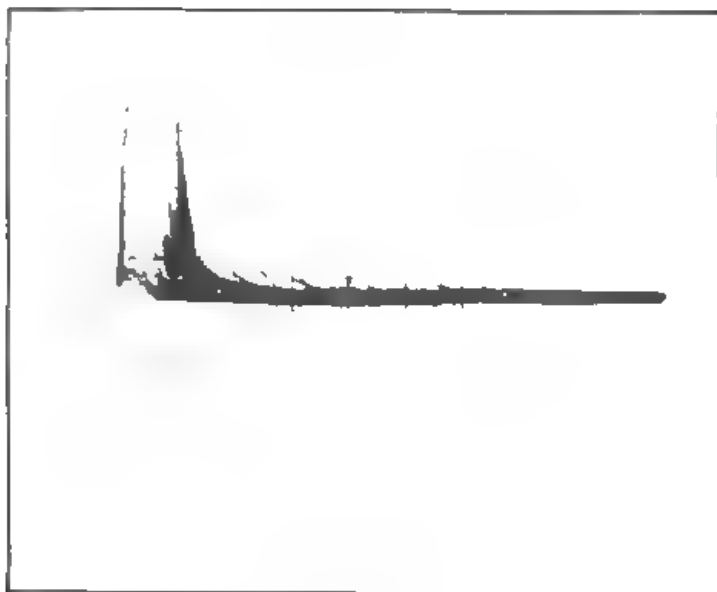
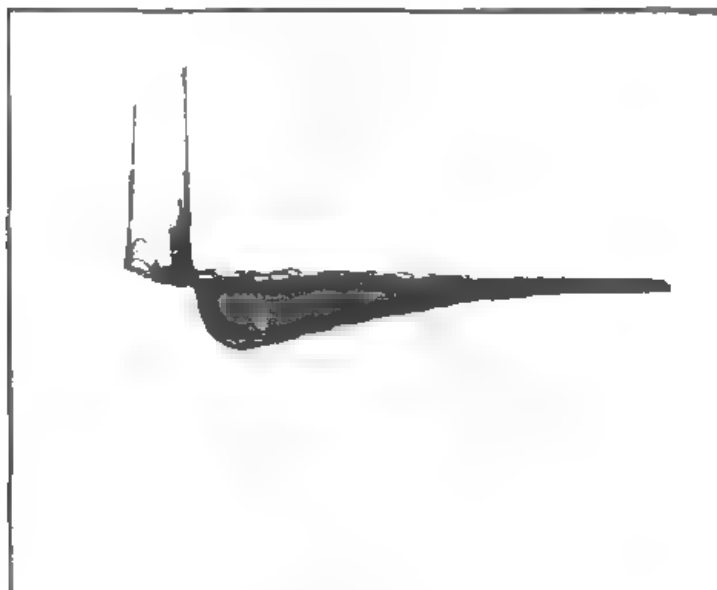

Figure 4-2a
Figure 4-2b
- a. The Pole/Zero is extremely critical for good high count rate resolution. See note 1 on page 4-4. Adjust the radiation source count rate between 2kcps and 25kcps. While observing the AMP OUTPUT on the scope, adjust the Pole, Zero so that the trailing edge of the Gaussian pulse returns to the baseline with no over or under shoots. Figure 4-2a shows the correct setting of the Pole/Zero control, with Figures 4-2b and 4-2c showing under and over compensation for the preamplifier decay time constant. Notice some small amplitude signals with long decay times in Figure 4-2a. These are due to charge trapping in the detector and cannot be corrected by the Pole/Zero control.